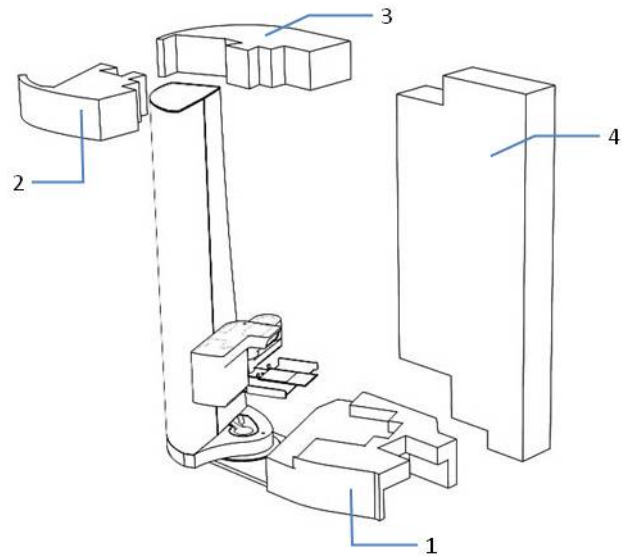

Figure 10: Installing the foam parts
- a) Place foam part 1 (see Figure 10) below the mover arm and lower the mover arm to the lowest position, such that the shovel and mover arm rest in the cavities of the foam part.
- c) Install foam parts 2, 3, and 4 as shown in Figure 10.